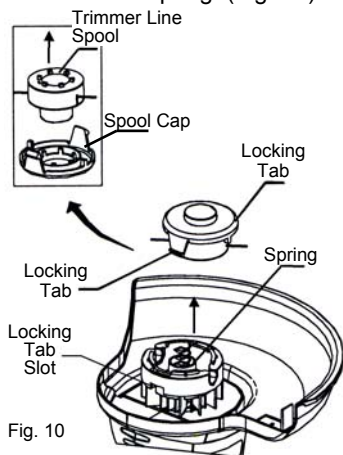

Fig. 10
3. Depress the locking tabs underneath the spool housing. (Fig. 10)
4. Lift off the spool cap. (Fig. 10)
6. Remove the spring. (Fig. 10)